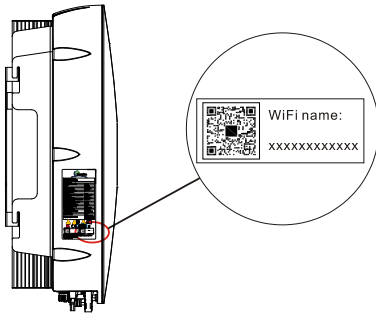

Figure 3-1
1.Find Wi-Fi name from the label on the inverters, and connect to Wi-Fi by initial password “gsstes123456”. (Figure 3-1)